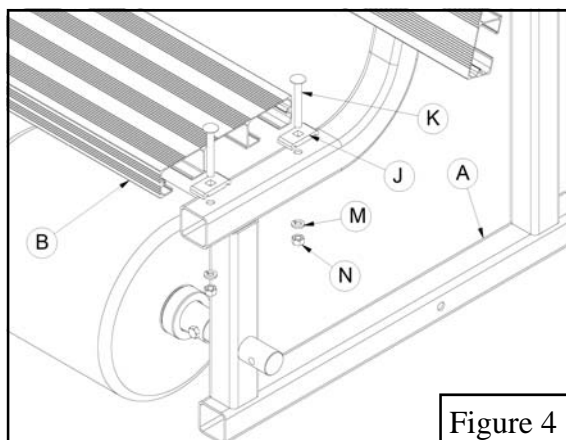

Figure 4
5. Use Bench Clamps (J), $3/8''$ X $3''$ Carriage Bolts (K), $3/8''$ Lock Washers (M) and $3/8''$ Hex Nuts (N) to attach Aluminum Seats (B) to Leg Assemblies (A). Make sure there is equal distance of Aluminum Seat (B) overhang on each end of the bench prior to tightening the hardware. See Figure 4.